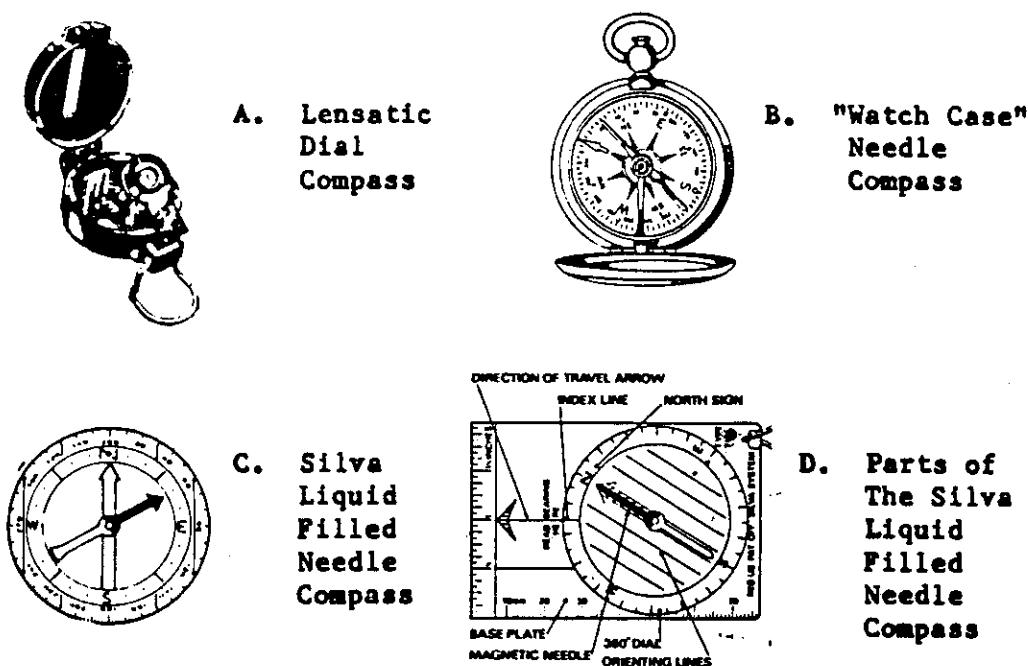

Figure 278
- d. The Mariner's Compass and related magnetic land compasses depend upon the earth's magnetism and a magnetized needle or dial. For the most part, land compasses are of the needle or dial variety. Figure 278 shows three common types of conventional compasses: The Lensatic Dial Compass, the "Watch Case" needle type compass and the Silva liquid filled needle compass.
A great number and variety of compasses are made by the Silva Company. These Silva-Systems Compasses come in a large selection of styles, shapes and designs with a compass for every purpose. Perhaps the most popular compasses are the liquid filled needle compasses. Although there are induction damped compasses and air-filled compasses, the liquid filled compasses are now almost universally used because it slows down the jiggling of the needle and brings it to rest more quickly, and at the same time, the compass is not too costly. It makes a good orienteering compass. Figure 278-D shows the parts of the Silva liquid filled needle compass.